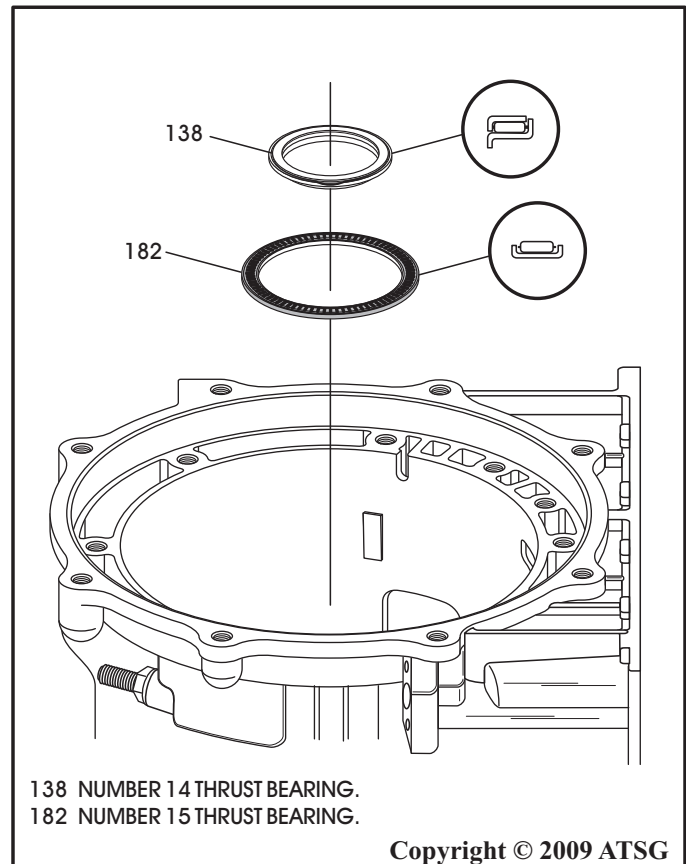

Figure 202
28. Install the number 15 thrust bearing with the needles facing up, as shown in Figure 202, and retain with a small amount of Trans-Jel®.
29. Install the number 14 thrust bearing, as shown in Figure 202, and retain with Trans-Jel®.